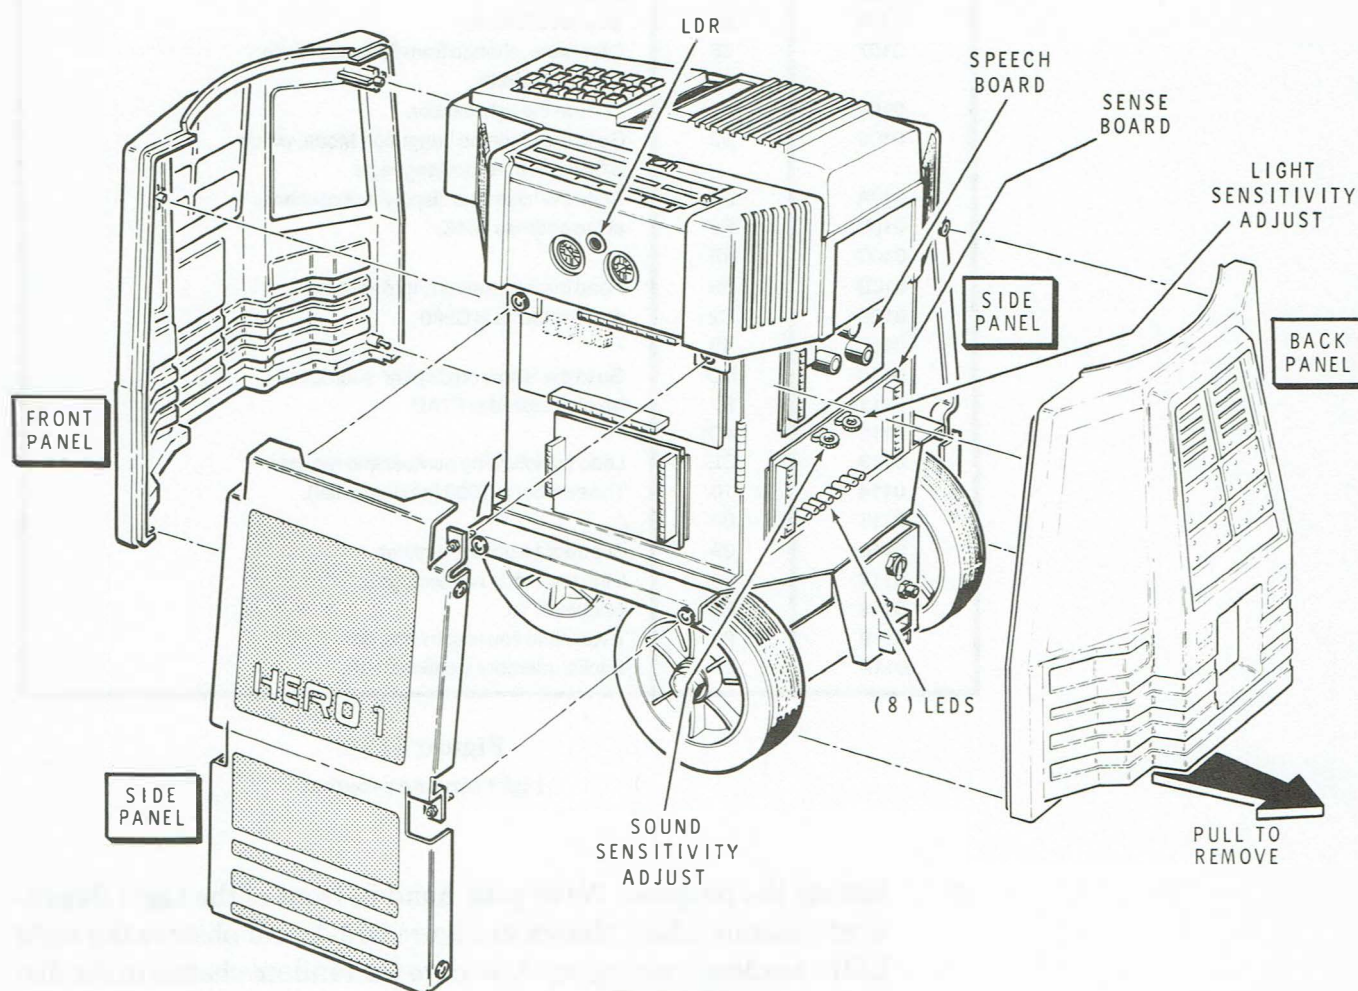

Figure E13-1
1. Observing Figure E13-1, carefully remove the back panel from the Trainer. Note the position of the sense board. Also note the position of the LIGHT Sensitivity adjustment and the eight LEDs.
5. Initiate the program. Wave your hand in front of the Light Dependent Resistor (LDR), shown in Figure E13-1, and observe the eight LED's randomly changing. Also note the random change in the display.